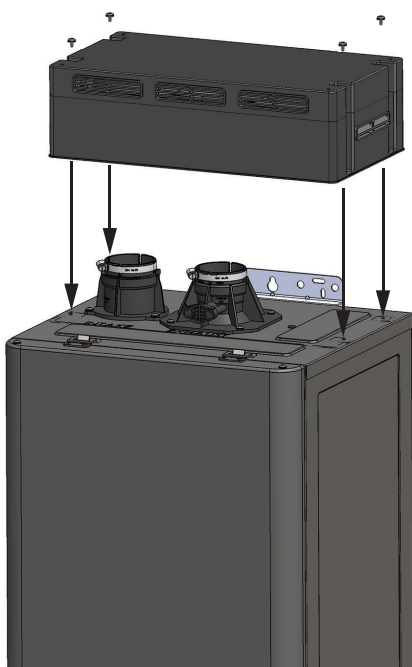

Figure 27 - Outdoor Vent Cap secure with screws.
- 2 Orient the outdoor vent cap as shown in Figure 27.
- 3 Secure the Outdoor Vent Cap to the water heater at each corner with the screws removed earlier. See Figure 27.